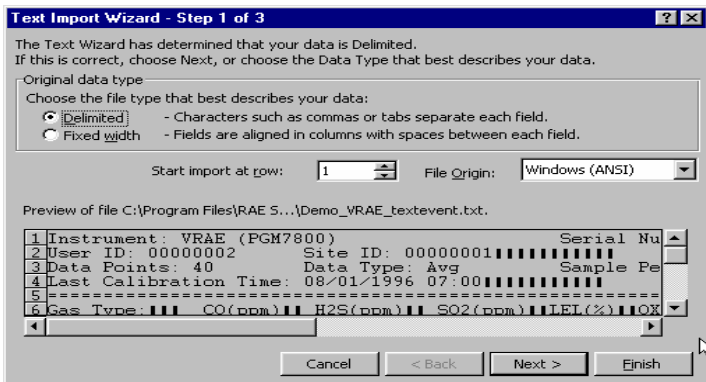

Figure C-3 **Text Import Wizard** Dialog Box
2. Click **OK** button, a **Text Import Wizard** dialog box is open, as shown in Figure C-3.